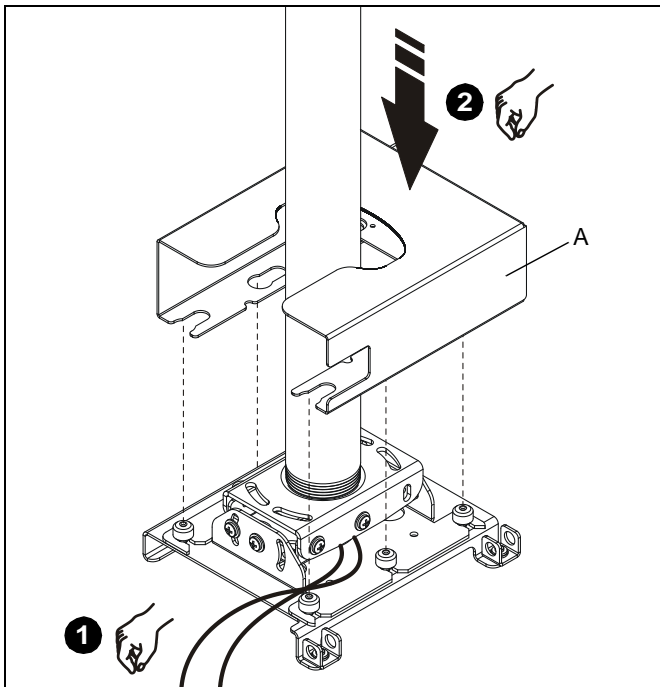

Figure 3
1. If cables exit extension column *below* RPA mount, then route cables to *left* side of mount as shown (See Figure 3).
2. Align thumb nut slots in enclosure (A) with thumb nuts on interface (See Figure 3). Lower enclosure (A) into place. Ensure open end of enclosure (A) faces toward cables (if applicable).